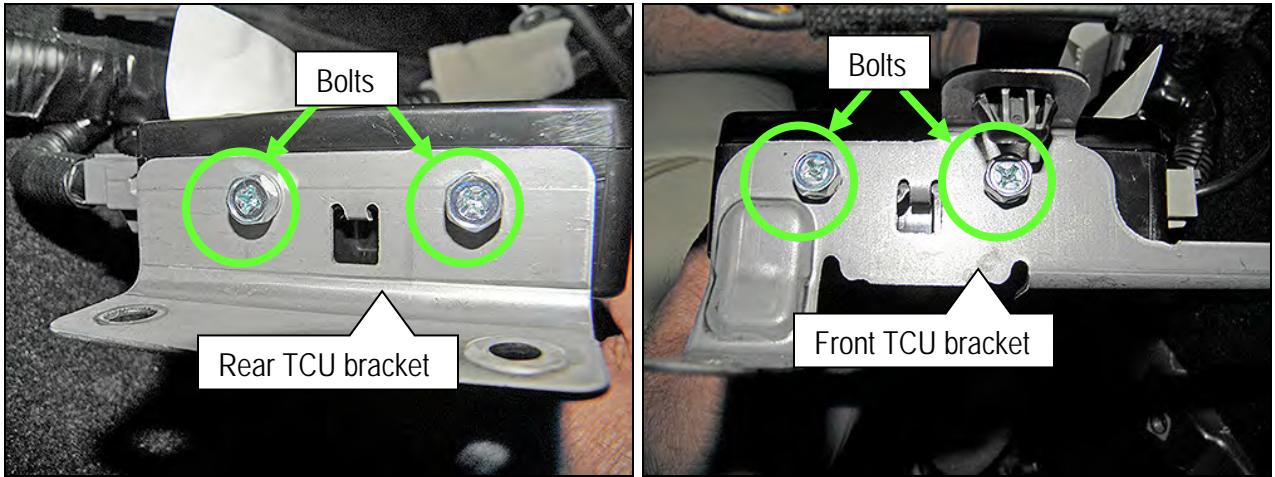

Figure 46B
- a. Remove the two bolts that attach the front and rear TCU brackets; four total (Figure 46B).